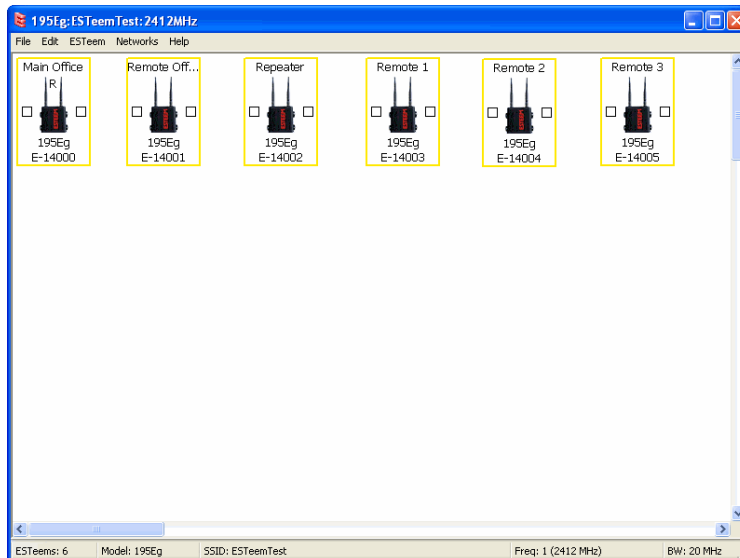

Figure 14: Example 3 Modems
1. Using the above procedure for adding ESTeem Model 195Eas, add the six ESTeem 195Eas for this example and rename by location. Your layout should appear like Figure 14.